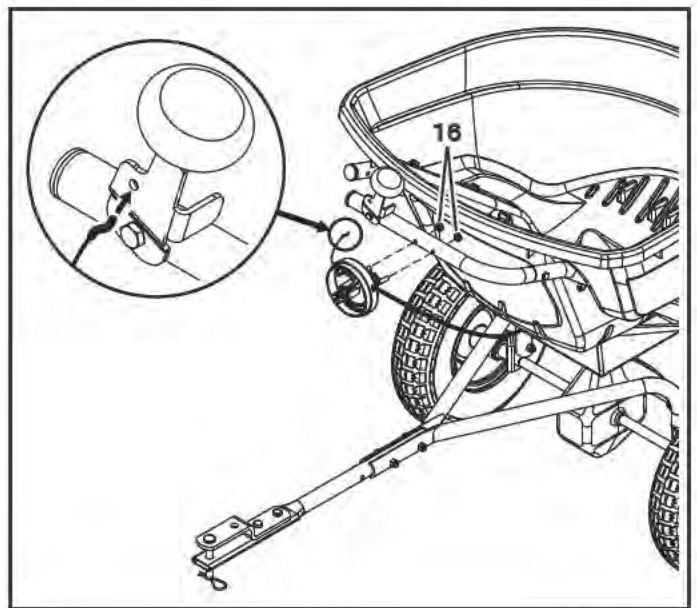

FIGURE 7
STEP 7: (SEE FIGURE 7)
- Attach the flow control assembly (4) to the control tube (6) using two 1/4" nylock nuts (16).